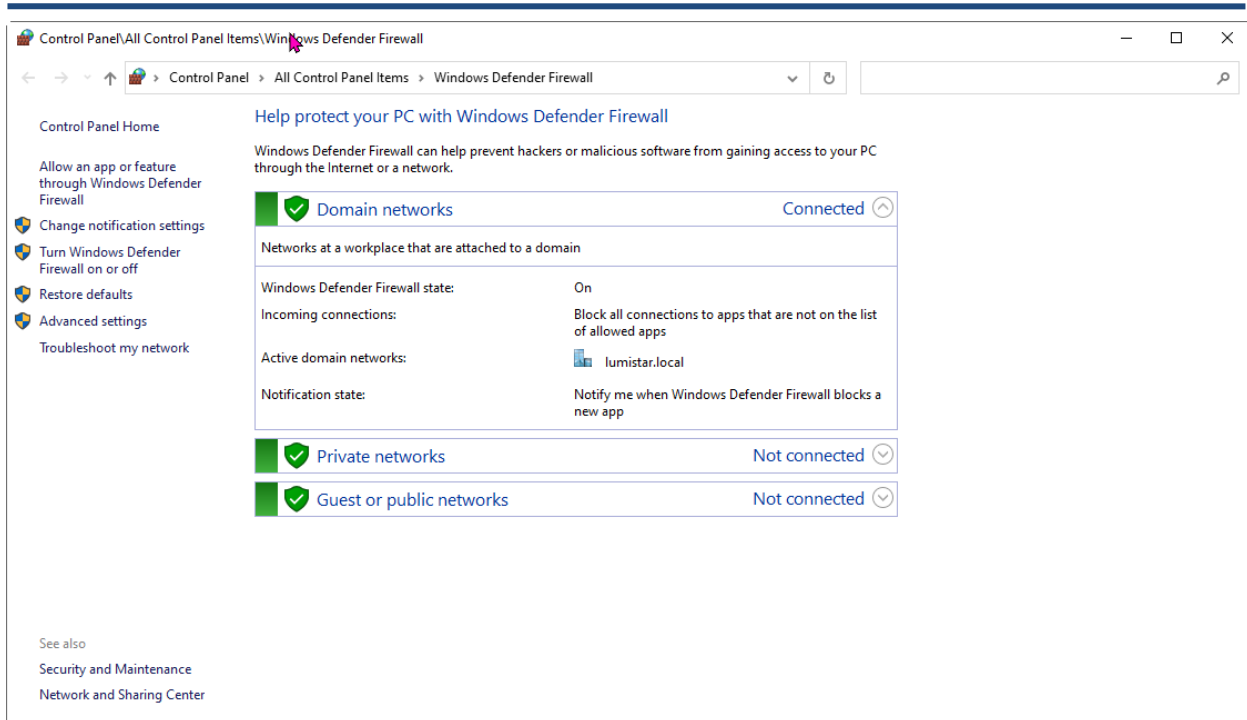

Figure 4-2 Windows Defender Control Window (Win10 Pro)
- 1.) In the Windows search bar, type in "Windows Defender". This will result in a Window similar to the one shown in Figure 4-2.